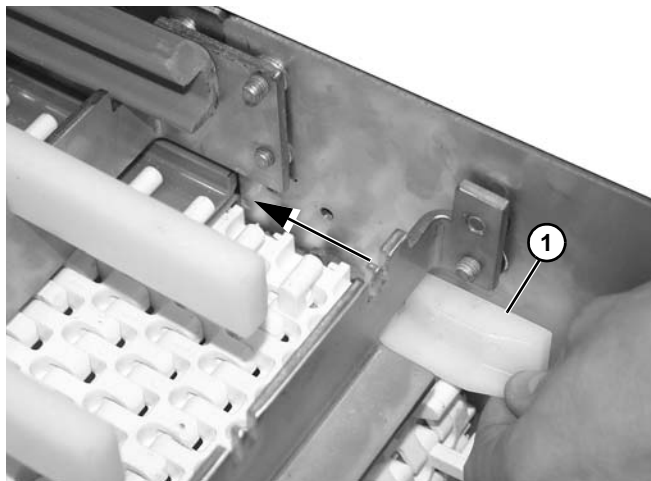
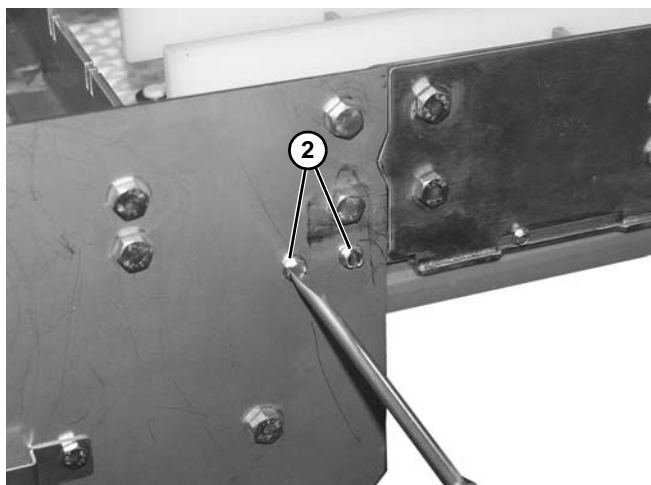

Figure 102
Figure 103
6. Install belt guide (Figure 102, item 1) with two screws (Figure 103, item 2). Repeat on opposite side.